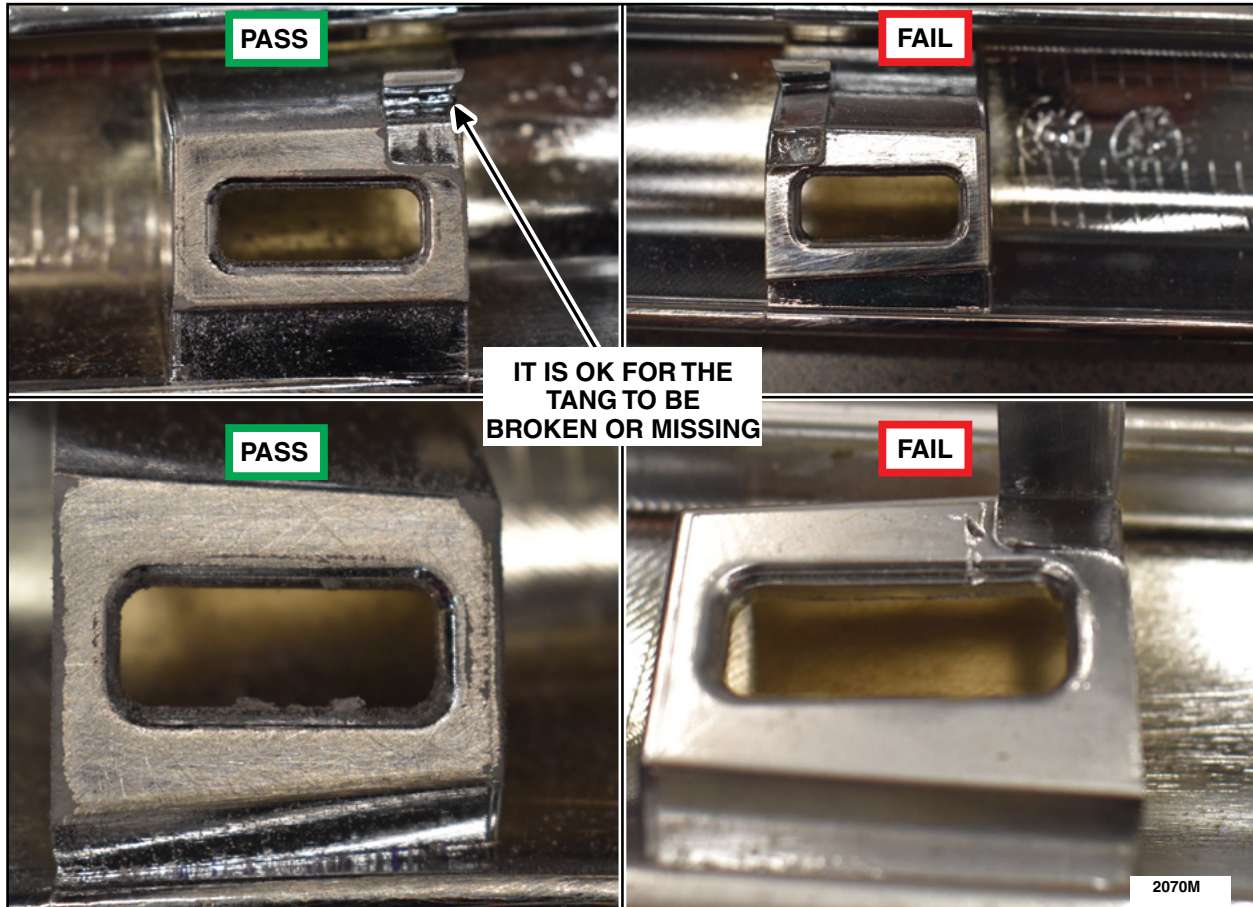

FIGURE 14
4. Without proper abrasion the adhesive will not hold. See Figure 14. Has proper abrasion been achieved?